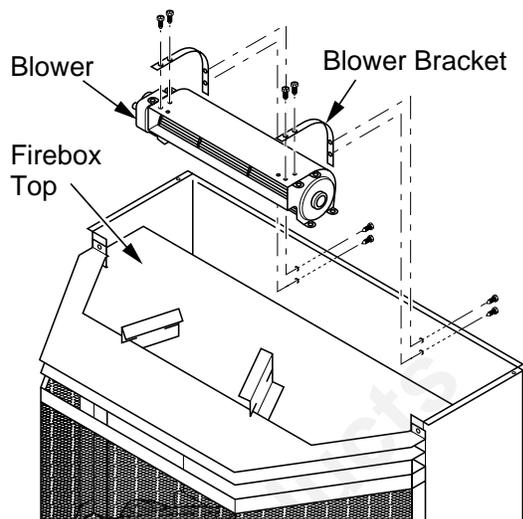

Figure 16 - Removing Blower Brackets from Stove and Attaching to Blower
6. Remove the two blower mounting brackets from the rear panel by removing two screws each (see Figure 16, page 13).
7. Attach the two mounting brackets to blower housing using four screws provided in blower kit (2 for each bracket) (see Figure 16, page 13). Tighten screws securely. Place blower assembly temporarily on top of firebox.
12. Using the four screws previously removed, mount blower assembly to stove by reattaching blower brackets to rear panel (see Figure 16). Tighten screws securely.